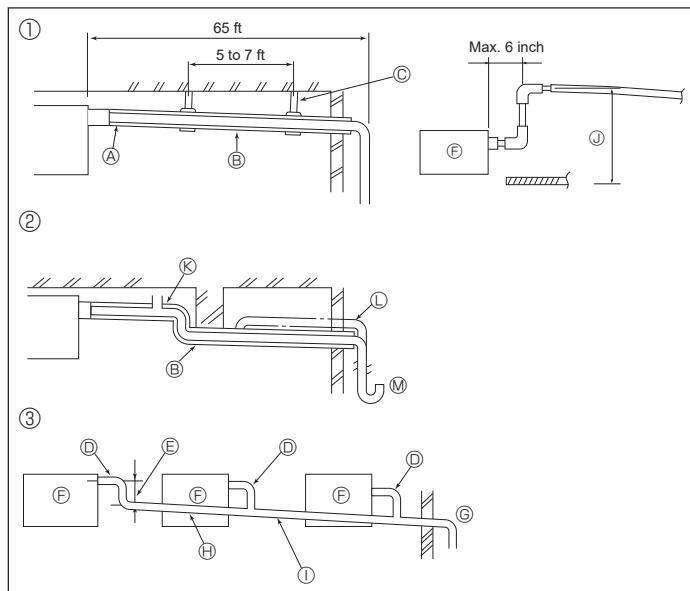

Fig. 3-1
3.1. Drainage piping work (Fig. 3-1)
- ① Correct piping
- ② Wrong piping
- Do not place an air bleeder, it may cause overflowing of drainage, ⑧
- Do not place a raised pipe on the piping, ⑨
- Do not place odor traps on the piping, ⑩
- ③ Grouped piping